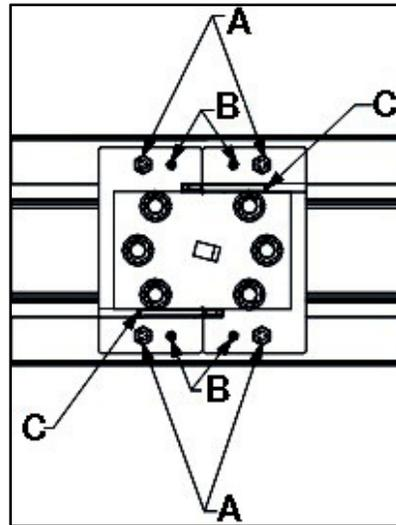

Fig. 5: Repositioning the winch
13. Loosen the bolts (A) shown in Fig. 5 until they are not in contact with the upper bolsters. Loosen, DO NOT REMOVE, the bolts (C) shown in Fig. 5. Rotate the ram 180 degrees and fasten bolts (A) and bolts (C).
⚠ DANGER! DO NOT LOOSEN the bolts (B) shown in Fig. 5. If this warning is not heeded, it may result in death or serious injury.